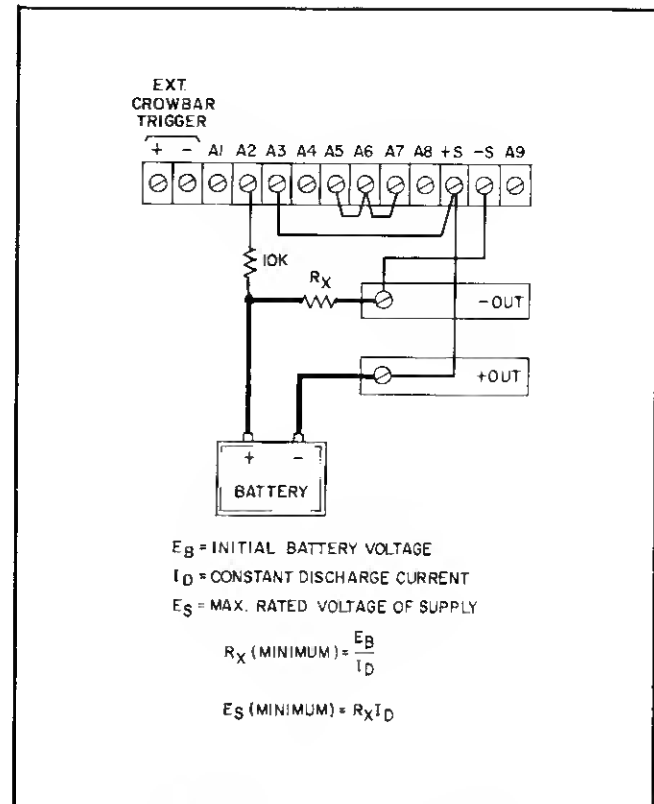

Figure 3-17. Battery Discharging
**3-92** These power supplies are also useful when batteries must be discharged at a constant current in order to test them. Connecting a supply as shown in Figure 3-17 and following the instructions below makes an unattended constant-current discharge possible by automatically shutting off the output of the supply when the battery voltage reaches zero.
the supply senses this through the connection to its A2 terminal and reduces the output current to zero. (If this automatic shutoff feature is not required, the 10k ohm resistor may be omitted.) As shown in Figure 3-17,  $R_X$  must be selected so that its IR drop is less than the maximum rated output voltage of the supply, but greater than the initial battery voltage.
- b. Connect terminal A3 to +S and leaves all other jumpers connected as for normal operation as shown in Figure 3-17.